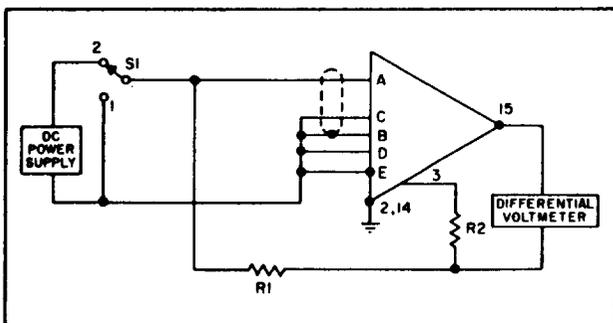

Figure 6-12. Gain Accuracy Test Circuit ($G < 1$)
- 1) Connect the amplifier as shown in Figure 6-12. Use $R_2 = 1000$ ohms $\pm .01\%$. R_1 is given by: